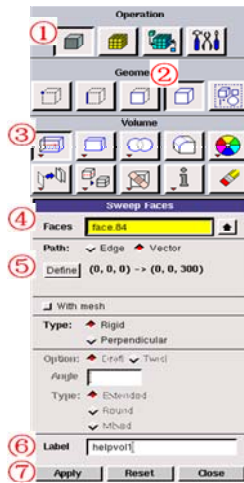
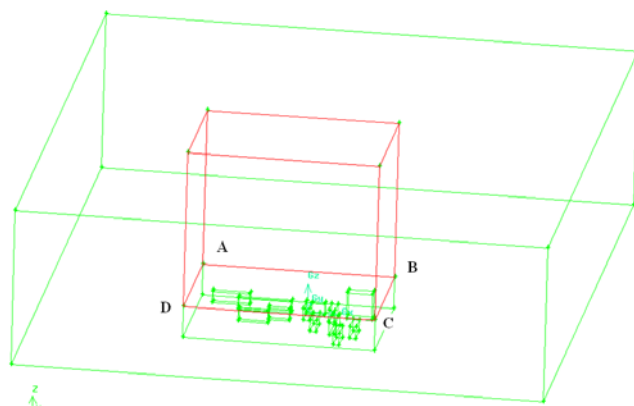

Fig. 20 Create a brick 'helpvol1' to be used as a cutting tool later.
Fig. 21 The brick 'helpvol1' marked in red.
- ① Click pad 'Geometry'
- ② Click pad 'Volume'
- ③\* Create volume by Sweep faces
- ④\* Pick the face ABCD (see Fig. 21)
\*④, Find the face indicated as ABCD in Fig. 21 and pick the face. The name of the face may not be face. 84 as shown in Fig. 20.
(2) Split the domain with the volume 'helpvol1'.